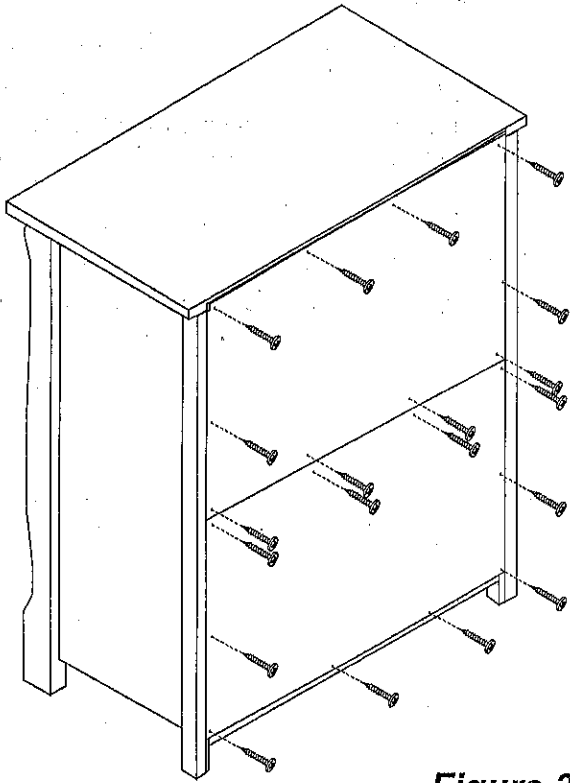

Figure 3
Attach the Back Panel(H) with 20pcs 1/2" wood screw(R), As shown in **Figure 3&3A**